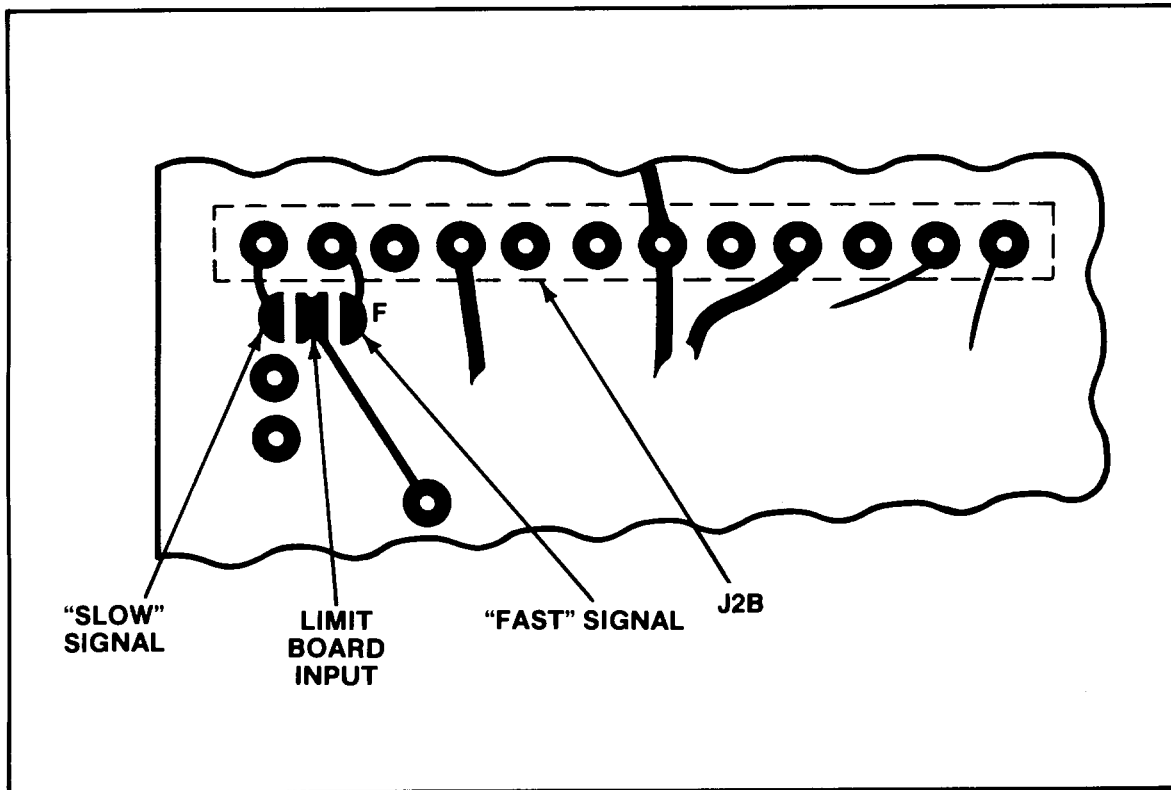

Figure 3. Fast/Slow Signal Solder-Drop Terminals
**Input Filtering.** Two filtered outputs are brought from the Signal Conditioner printed-circuit board to the Limit printed-circuit board. Both are low-pass filter outputs with one having a cutoff frequency of 200 Hz (*fast* signal) and the other having a cutoff frequency of 2 Hz (*slow* signal). The fast signal is normally connected to the Limit board circuitry via a solder-drop terminal labelled *F* on the underside (*Side 1*) of the Limit board (all 3300 units are shipped with this connection made). Instrument operation should be attempted without removing this connection. However, if excessive limit *chattering* is encountered (transducer is subject to excessive vibration etc.), this connection should be removed and the *slow* signal terminals should be connected via a solder drop. The *fast* and *slow* signal solder-drop terminals are illustrated in Figure 3.